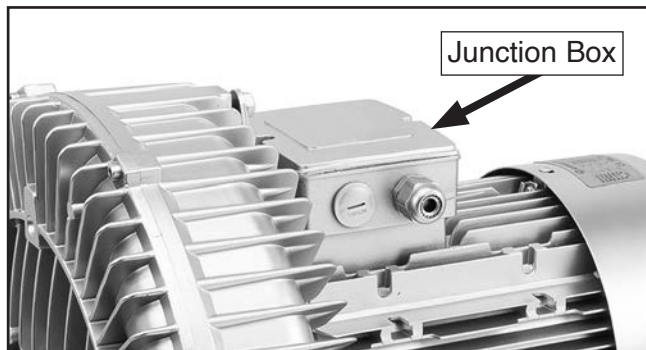

Figure 68. Vacuum pump junction box.
2. Open vacuum pump junction box (see **Figure 68**).